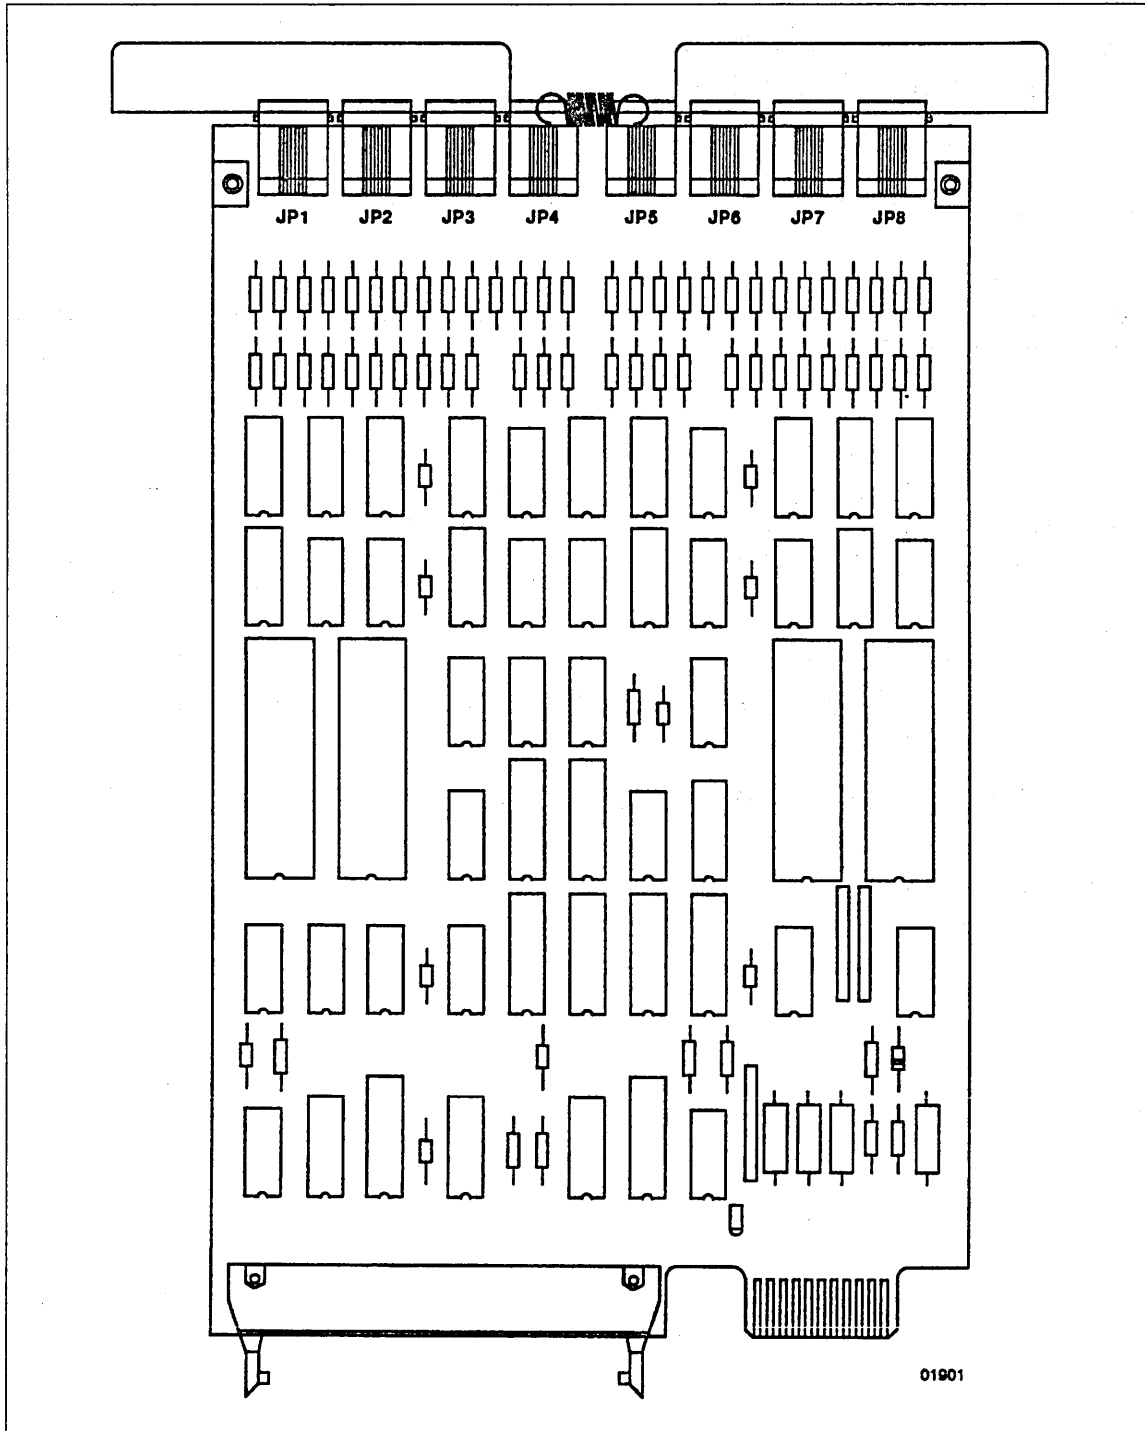

Figure 1-29. DY267-A LIM
2. Unpack the LIM boards (shown in figure 1-29), the equipment labels, and the FCO labels.